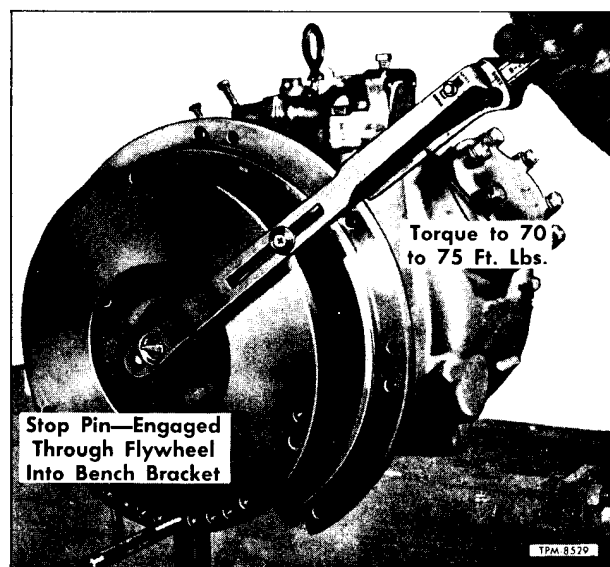

Figure 67—Torquing Compressor Flywheel Bolt
Insert drive key (34) into slot of compressor crankshaft, then with flywheel aligned, position flywheel to shaft. Install flywheel flat washer (32) and special bolt (31). Tighten bolt to 70 to 75 foot-pounds torque in manner shown in figure 67.